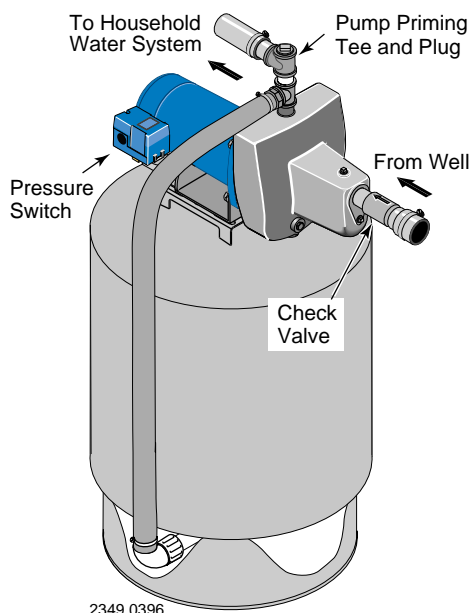

Figure 4: Pre-charged Tank Connections
PRE-CHARGE TANK CONNECTION (Figure 4)
- Step 1. Install two tees in the pump discharge port (see Figure 4). The pipe size must be at least as large as the discharge port.